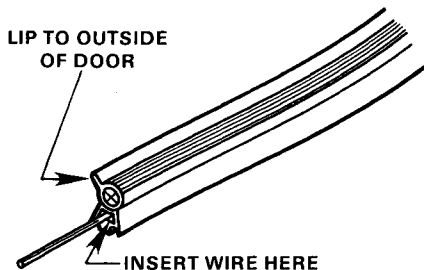

Figure 8
- Insert one of the aluminum wires furnished in each end of the gasket as shown in Figure 8. Leave approximately 1/2" of the wire protruding from the end.